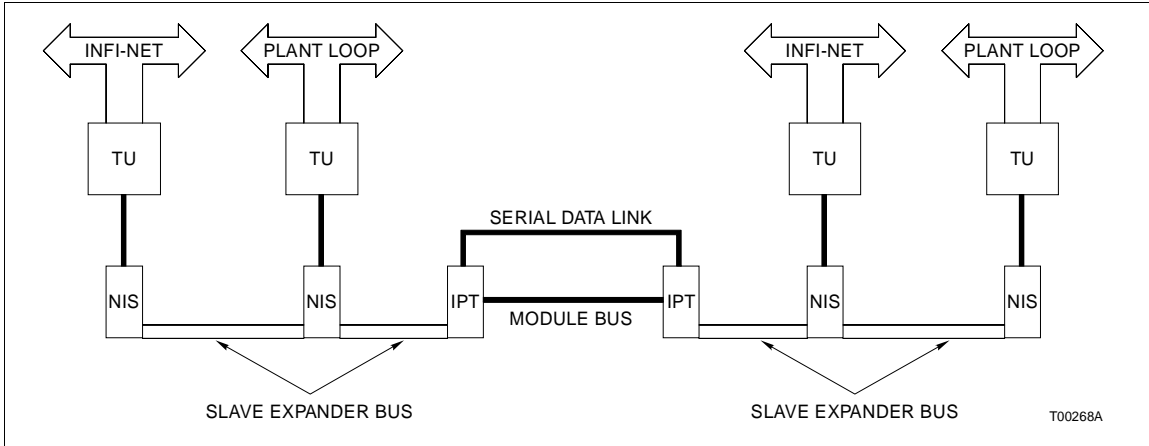

Figure 3-4. Redundant Configuration
4. For redundant configurations, follows Steps 1 through 4 for the primary set. See Figure 3-4.